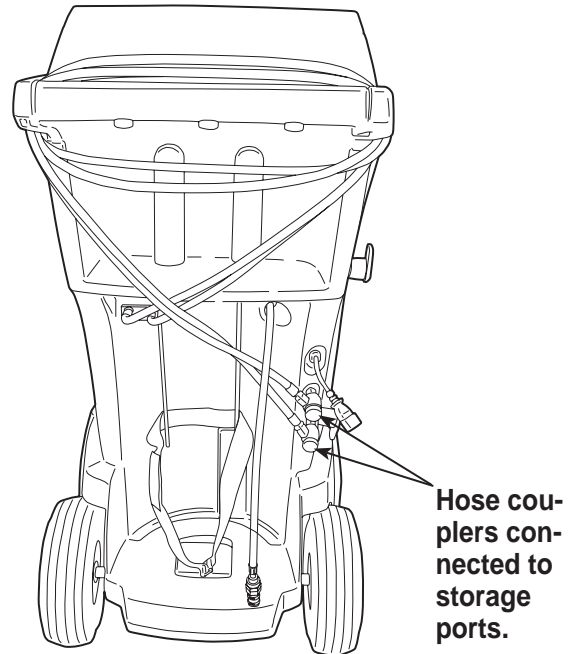

Figure 19
2. Loop the service hoses around the handle twice and attach them to the storage ports. See Figure 19.